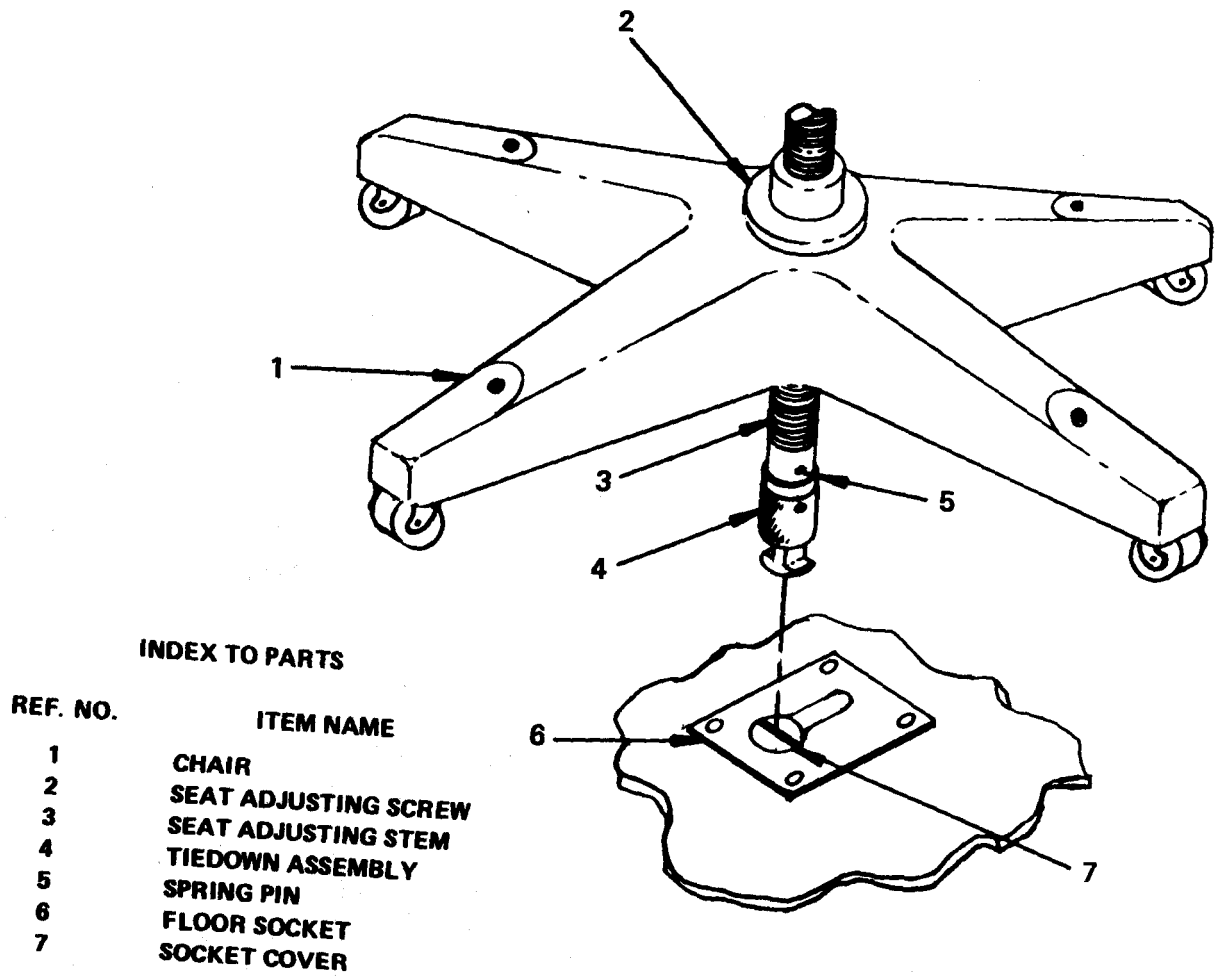

Figure 2-1. Chair Tiedown Assembly
a. Chairs. All chairs are fitted with a spring-loaded tie-down assembly on the bottom of the seat adjusting stem. This assembly fits into a keyslot shaped socket in the shelter floor (figure 2-1). Release chair tiedown as follows:
(1) Loosen seat height adjusting screw until chair swivels freely on door.
(2) Depress socket cover on floor socket and pull tiedown assembly out of keyslot into socket well, allowing the assembly to spring up and clear the floor. The socket cover will spring back flush with the floor. The chair is released at this point and can be adjusted to any height.